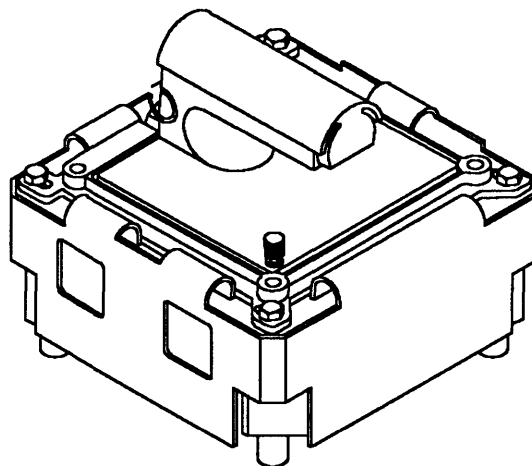

Figure 5-99. TCM Protection
12. Install the clip-on TCM cover (COTC) on the pin side of the TCM, as shown Figure 5-99.